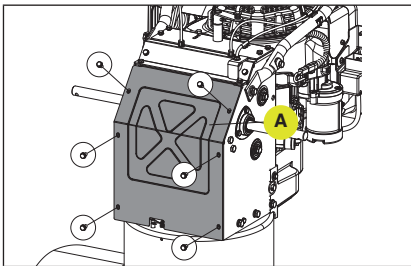

Figure 66
3. Remove the base frame cover (A) from the underside of the snowblower by removing the six M6 × 12 bolts. (Fig. 66)